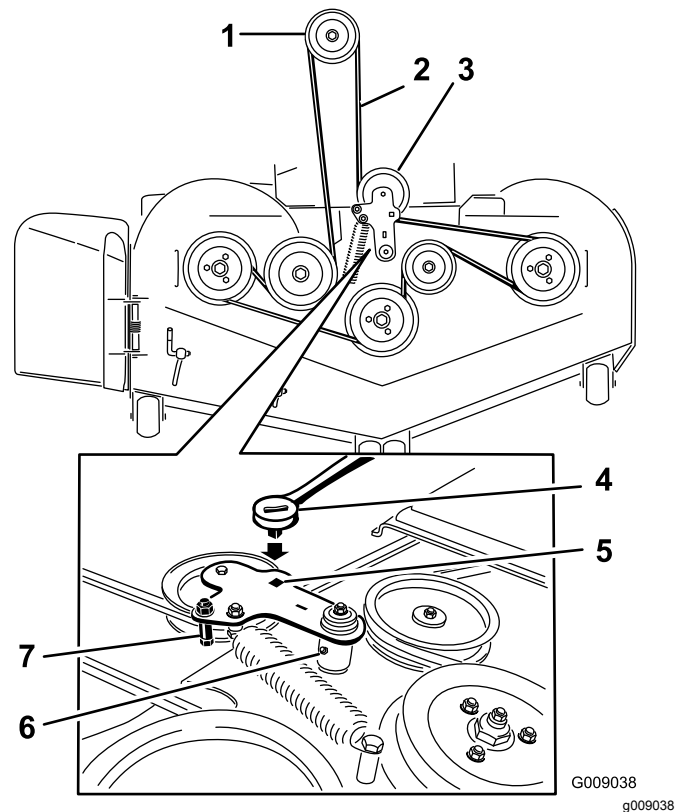
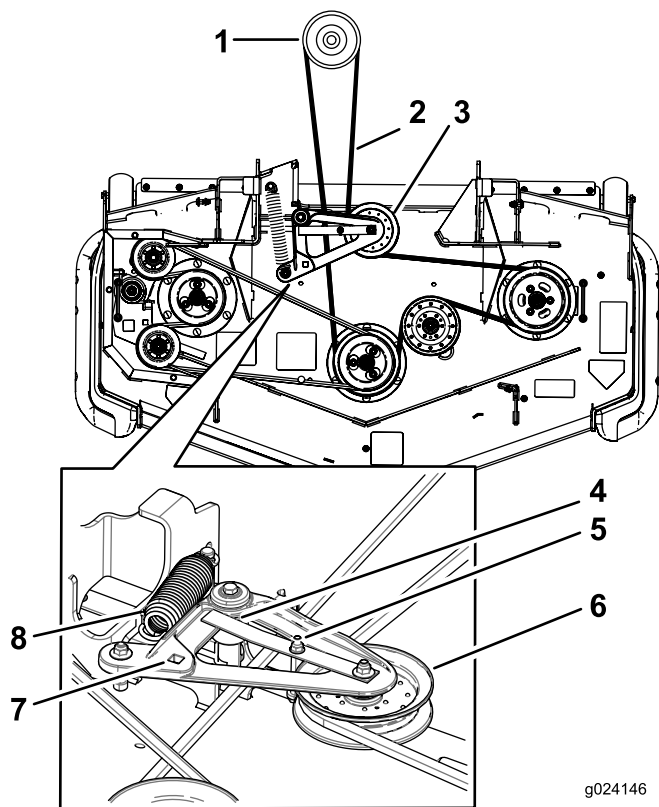

Figure 119
Figure 120
5. Lift up the floor pan and insert a ratchet into the square hole in the deck idler (Figure 119 or Figure 120).
6. Rotate the deck idler clockwise, lift up on the belt-guide tab (rear-discharge machines only), and remove the mower belt (Figure 119 or Figure 120).